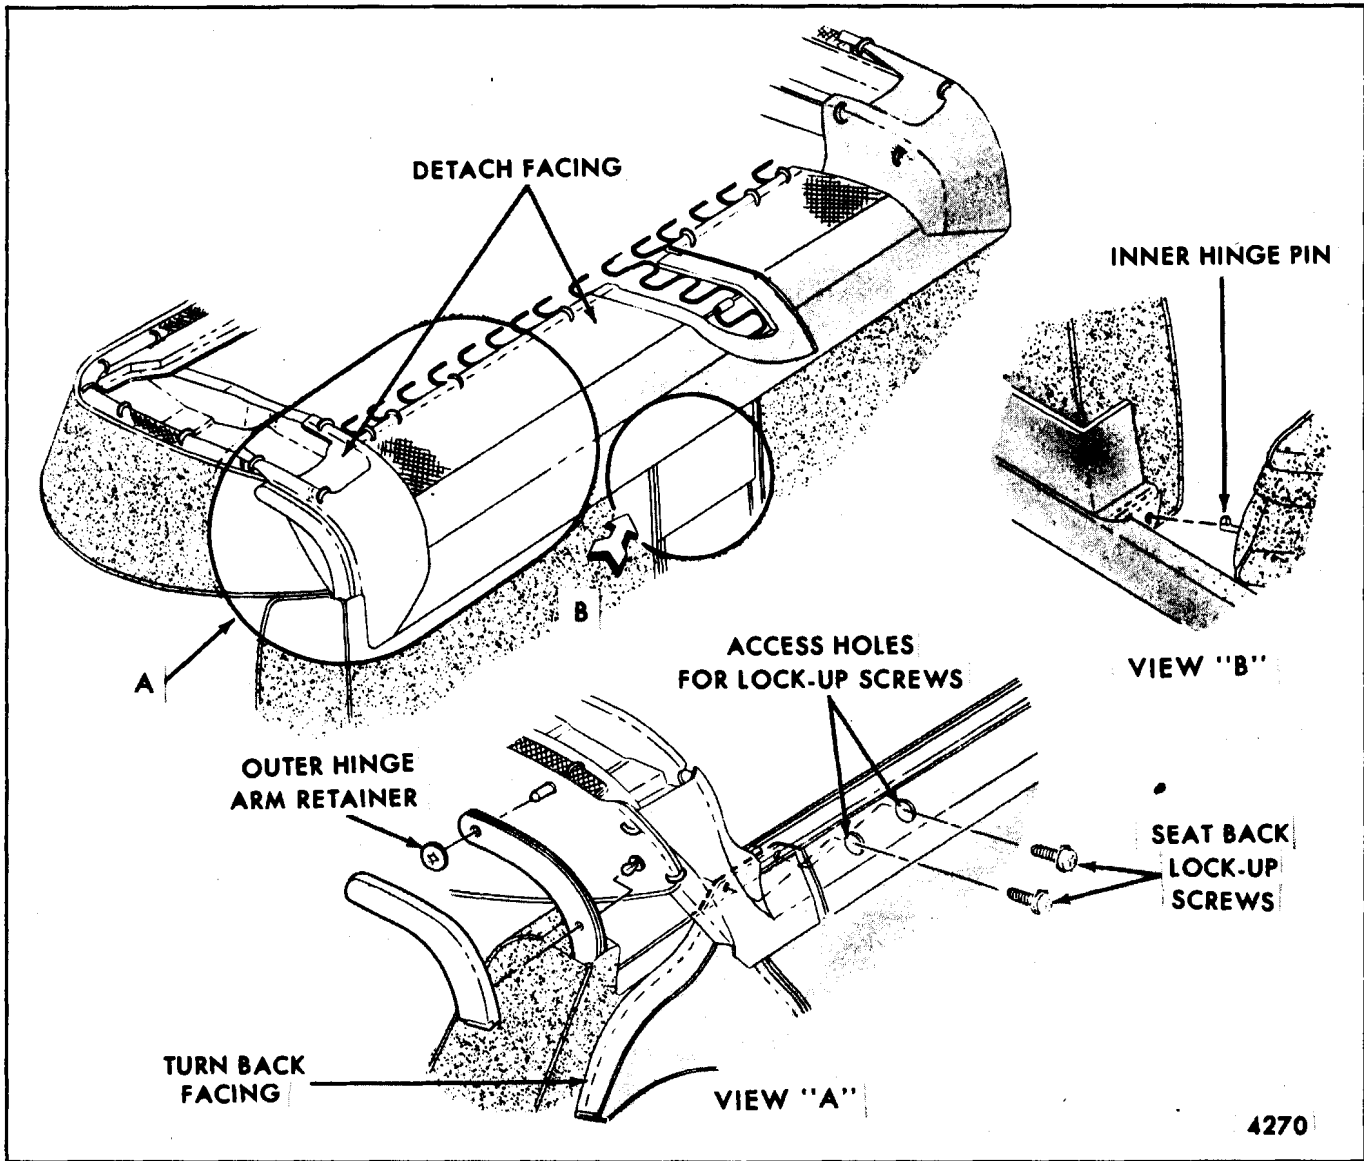
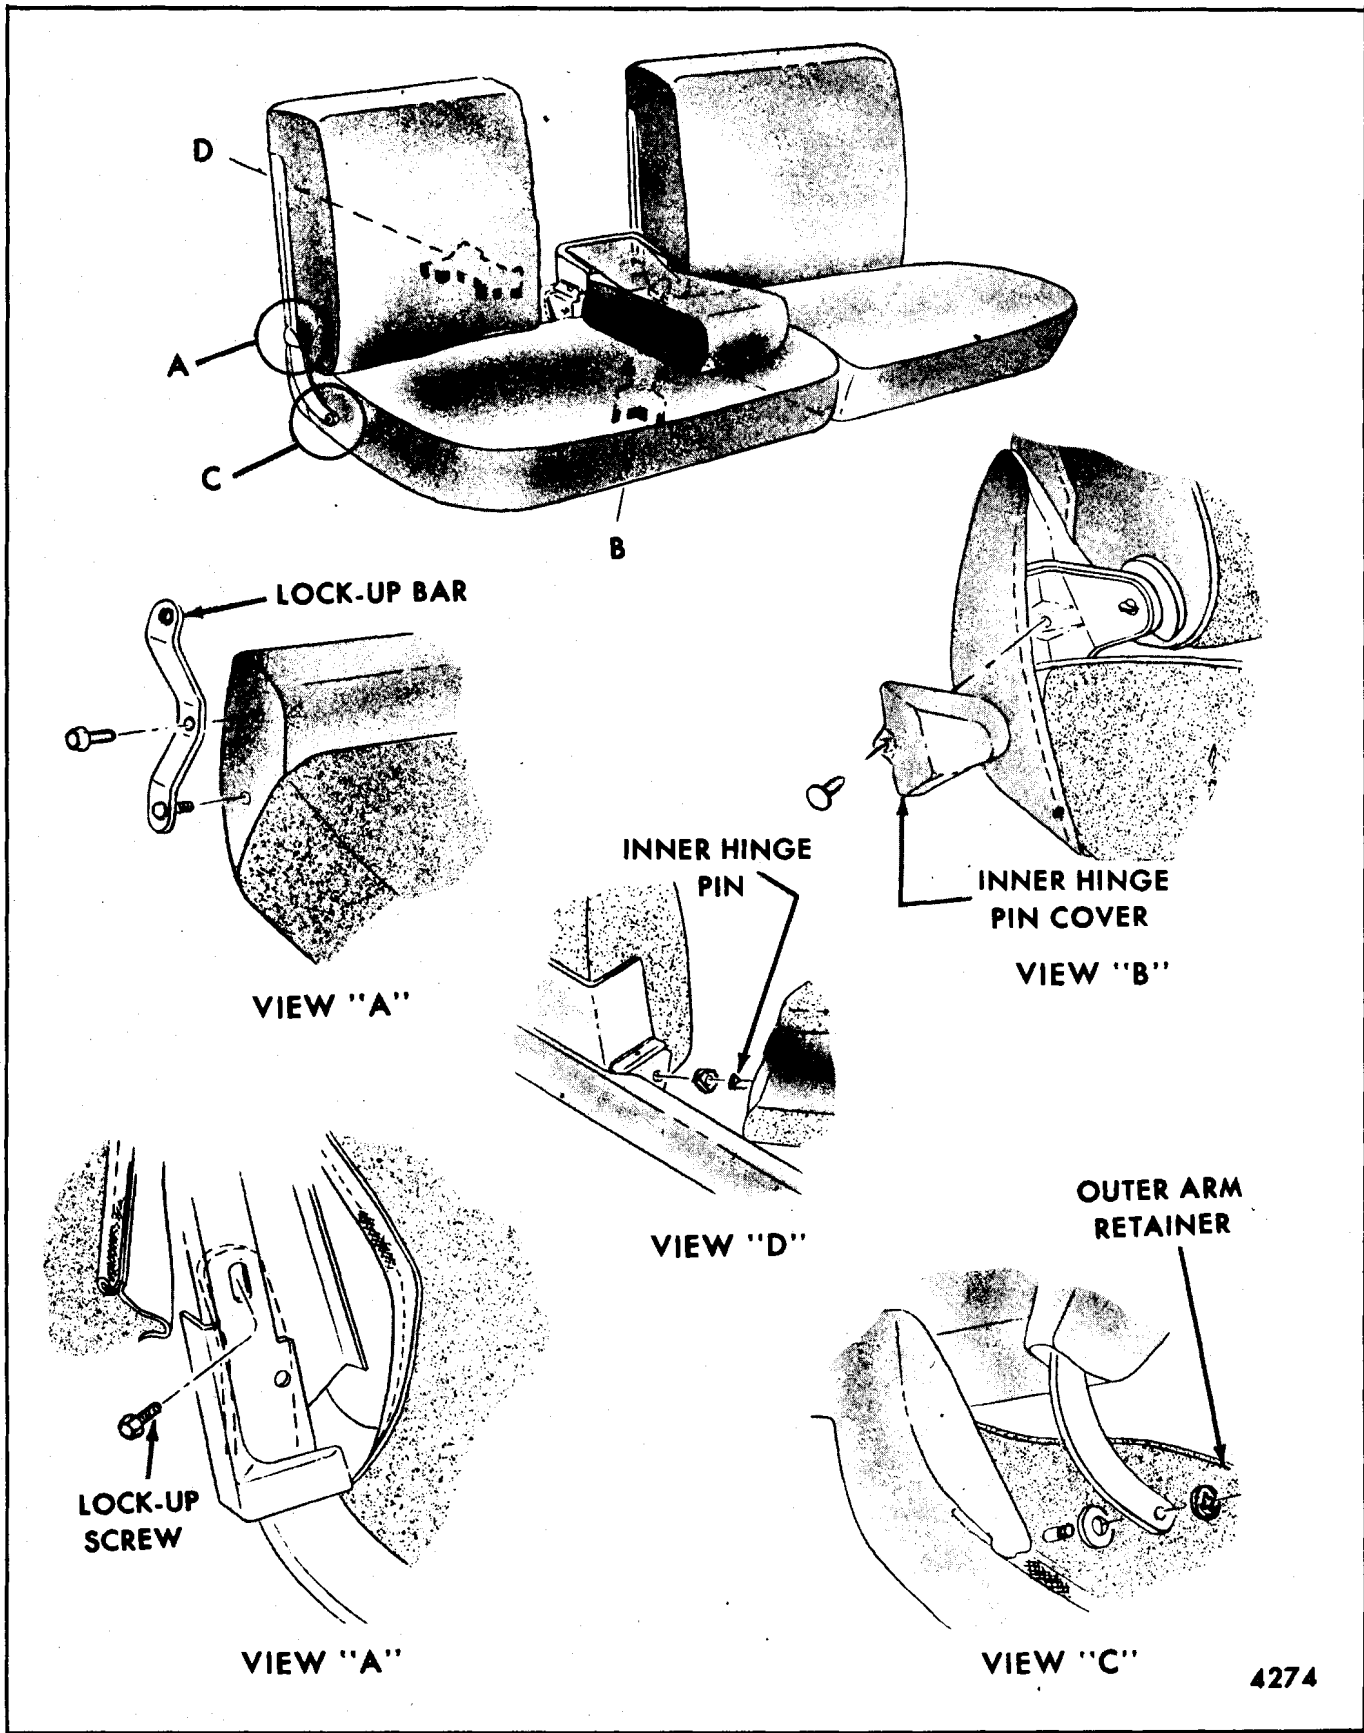

Fig. 14-24-Front Seat Back Attachment (Right or Left) - Four-Door Style Notch Back Seat
Fig. 14-25-Front Seat Back Attachment (Right or Left) - Four-Door Style 60-40 Seat
- Remove hog rings securing lower edge of seat cushion trim bottom facing to seat cushion springs and frame (Fig. 14-24 or 14-25).
- Remove seat side panel where present or outer hinge arm cover (Fig. 14-24 or 14-25); then, using a flat-bladed tool carefully remove retainer securing seat back outer arm to hinge pin (Fig. 14-24 or 14-25).
- On notch back seats detach trim sufficiently to expose seat back attaching bolt access holes (Fig. 14-24); then, through access holes remove seat back lock-up screws (Fig. 14-24). On 60-40 seats detach trim at outer hinge arm sufficiently to remove outer hinge arm lock-up screw (Fig. 14-25).
- Turn seat assembly right side up. Carefully disengage seat back outer arm from hinge pin; then, tilt seat back forward and upward to disengage seat back inner arm from hinge pin and remove seat back from body (Fig. 14-24 or 14-25).